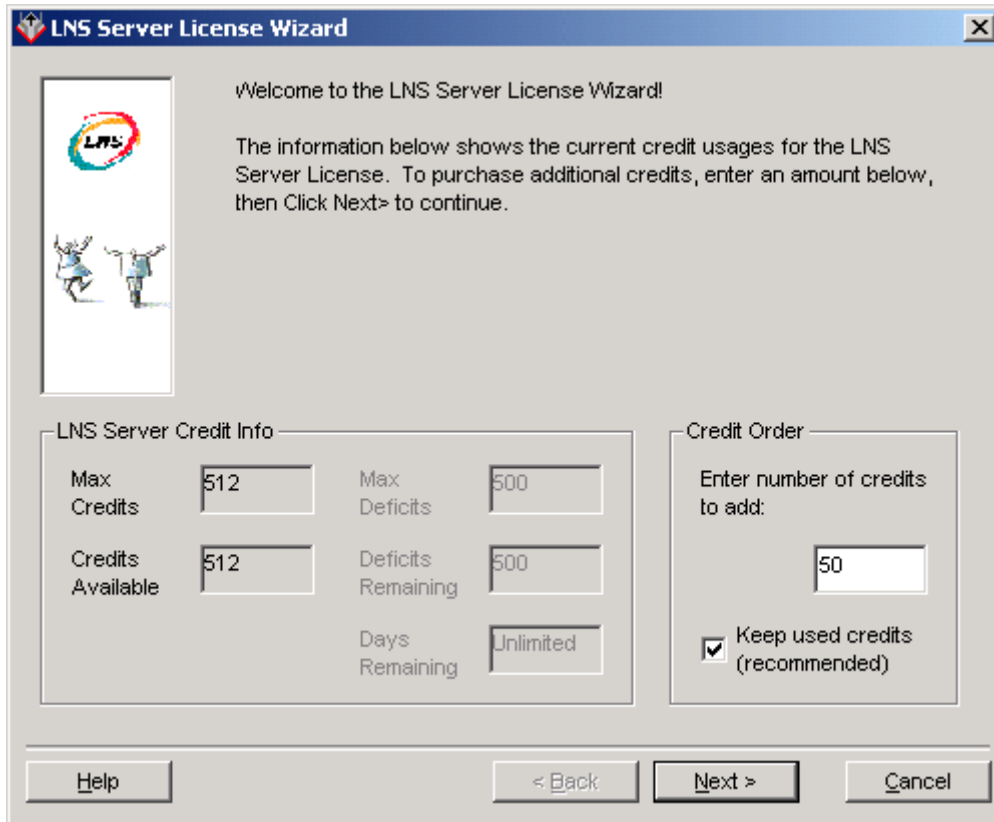

Figure 13.1 LNS Server License Wizard
1. Open the LNS Server License Wizard through the Echelon LNS Utilities group in the Windows Programs menu on the PC running the LNS Server. The utility opens with the dialog shown in figure 13.1.